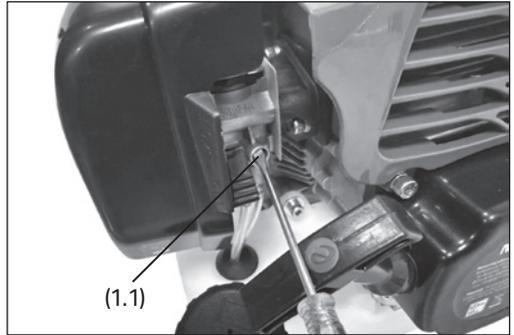

Fig.25
10.4 Engine Idle Speed Adjustment (Fig.25)
(Fig.25)